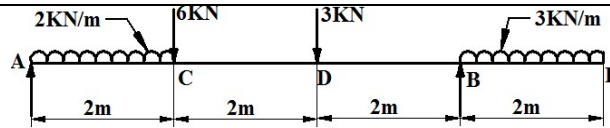

Figure 26
17. For the beam shown in *Figure 26*. Draw shear force and bending moment diagram and indicating the principle values (June/July 08)